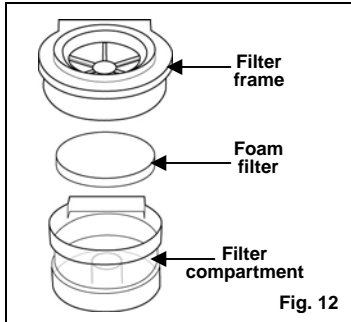

Fig. 11
4. To reattach the dust cup cover, align the indicators that are the cover and the dust cup and turn to the right to lock in place. Make sure that the "▼" symbol on the top cover is aligned with the "▲" symbol on the dust cup to lock into place. (Fig. 11)